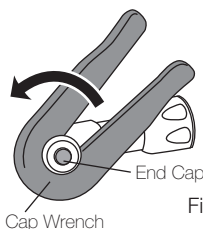

Fig.6
- 2) Check the end cap (Fig.6) is firmly tightened. If loosened, take the following actions.
- 2) Place Cap Wrench on the End Cap and turn counter-clockwise. Unscrew and remove the cap. (Fig. 6)